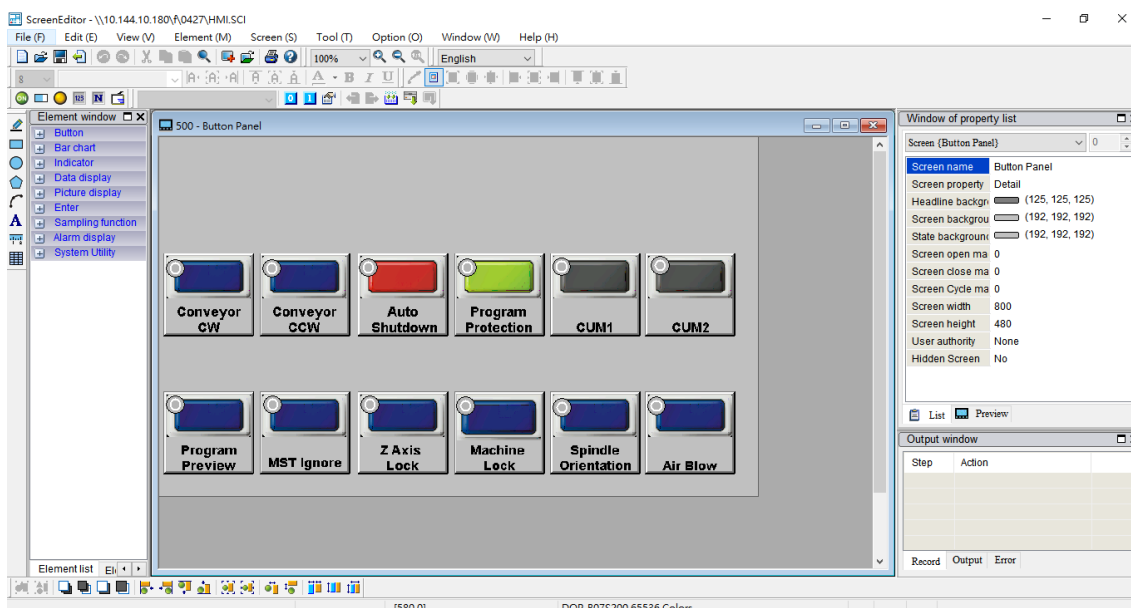

Figure 13.1.2
■ After entering ScreenEditor, you can see the operation interface as shown in Figure 13.1.2.